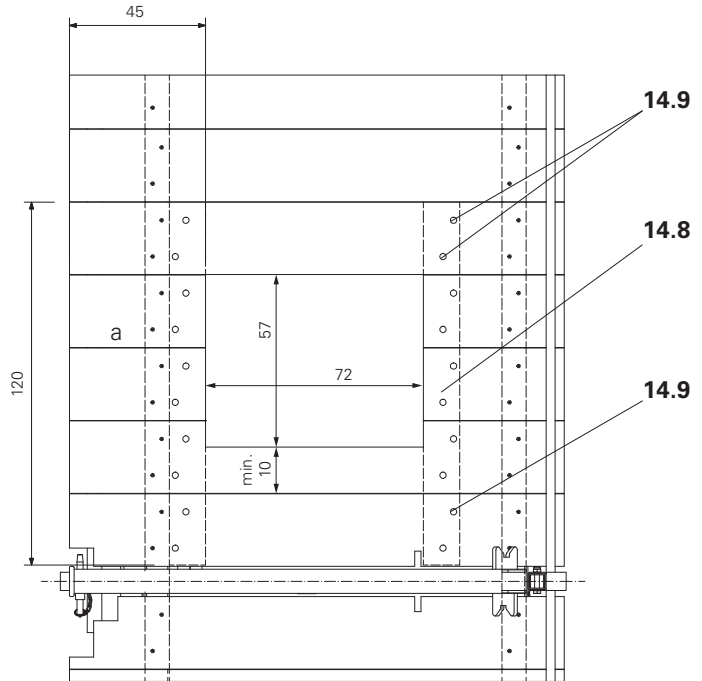
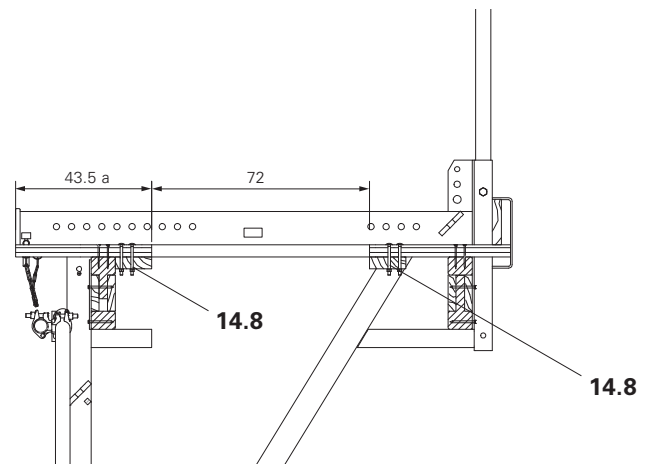

Fig. A2.02
Fig. A2.03
- Screw timbers (14.8) 2 x with the laterally-positioned end-to-end planking. F.H. Bolt DIN 603 M8 x 100 MU (14.9) with washer ISO 7094 100 HV A8. (Fig. A2.02 + Fig. A2.03)